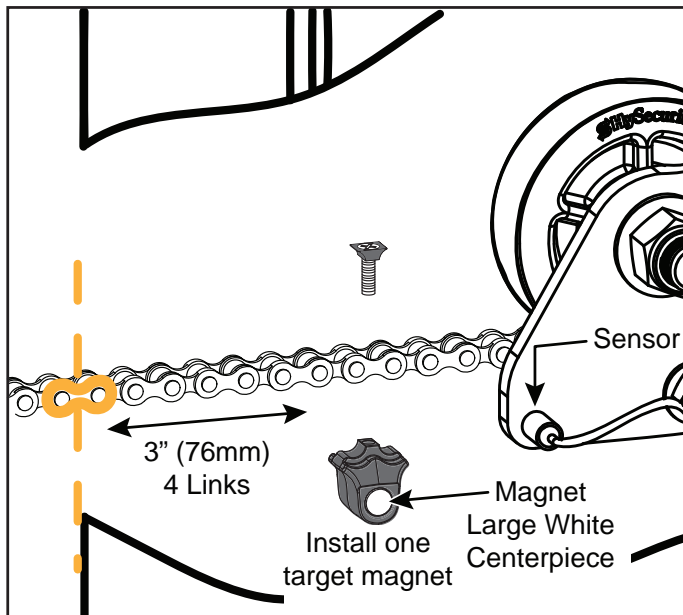

Figure 18. Installing Target Magnet
5. Fasten the target magnet to the chain link as shown in Figure 18. Make sure the large white centerpiece is facing toward the operator. Insert the screw and tighten it securely.
If "ALERT 15 - NO TARGET" appears on the display after the target magnet has been installed and a full gate cycle completed (steps 6 & 7), it means that the target magnet has not been detected by the operator. Check chain alignment and make sure the target magnet is positioned properly and passes across the face of the sensor. See Figure 18. Repeat steps 6 and 7.
9. If "LEARN OPEN" appears, then the target magnet was not detected. Check chain alignment and make sure the target magnet passes across the face of the sensor. See Figure 18. Repeat steps 6 - 8. If you are still having difficulty with the operator learning its limits, re-install the target magnet. See "Establishing the Open & Close Limits" on page 25.